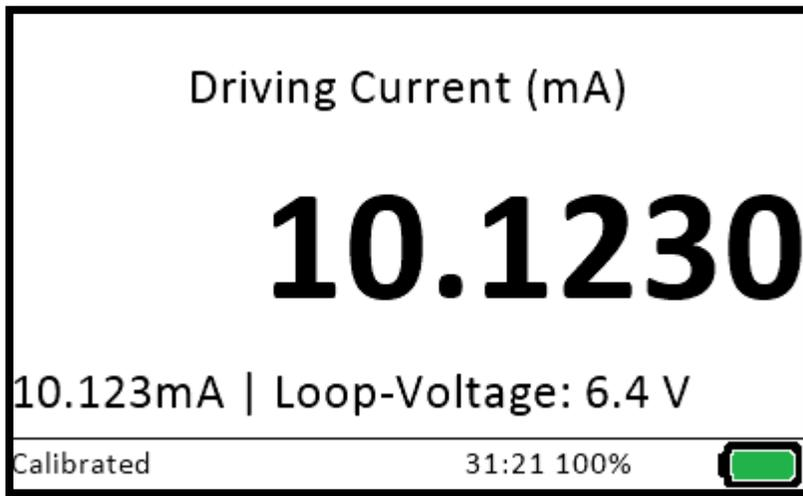

Figure 11. MAXREFDES183# current output calibrated.
13. The next screen will show the setting that was entered previously. Below that, in smaller font, the current drawn at the UIO port, as well as the measured loop-voltage, is shown in **Figure 11**.